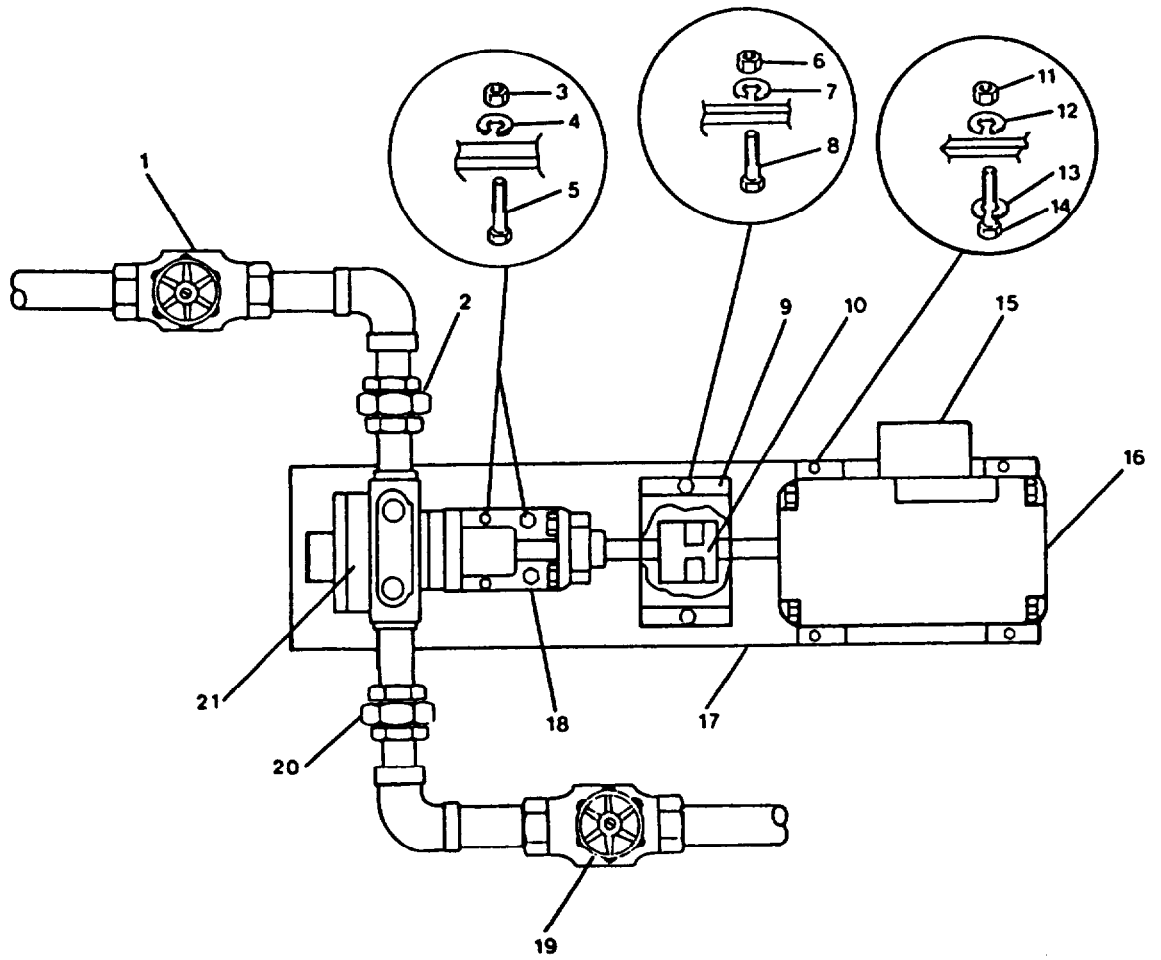

FIGURE 2-84. Rotary Pump Unit (Fuel Oil Transfer). Repair.
**2-101. Replace/Repair Rotary Pump Unit (Fuel Oil Transfer). (FIGURE 2-84)**